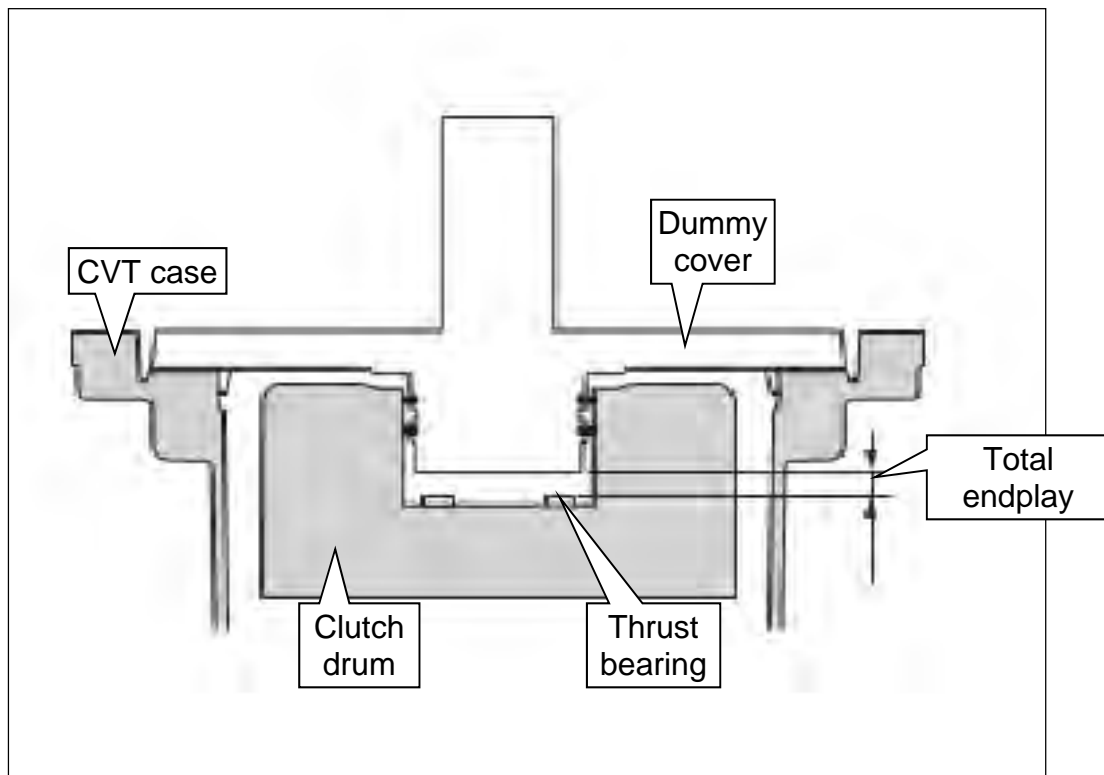

Figure 131
**IMPORTANT:** The clutch total endplay (Figure 131) must always be adjusted when a new sub-assembly is installed.